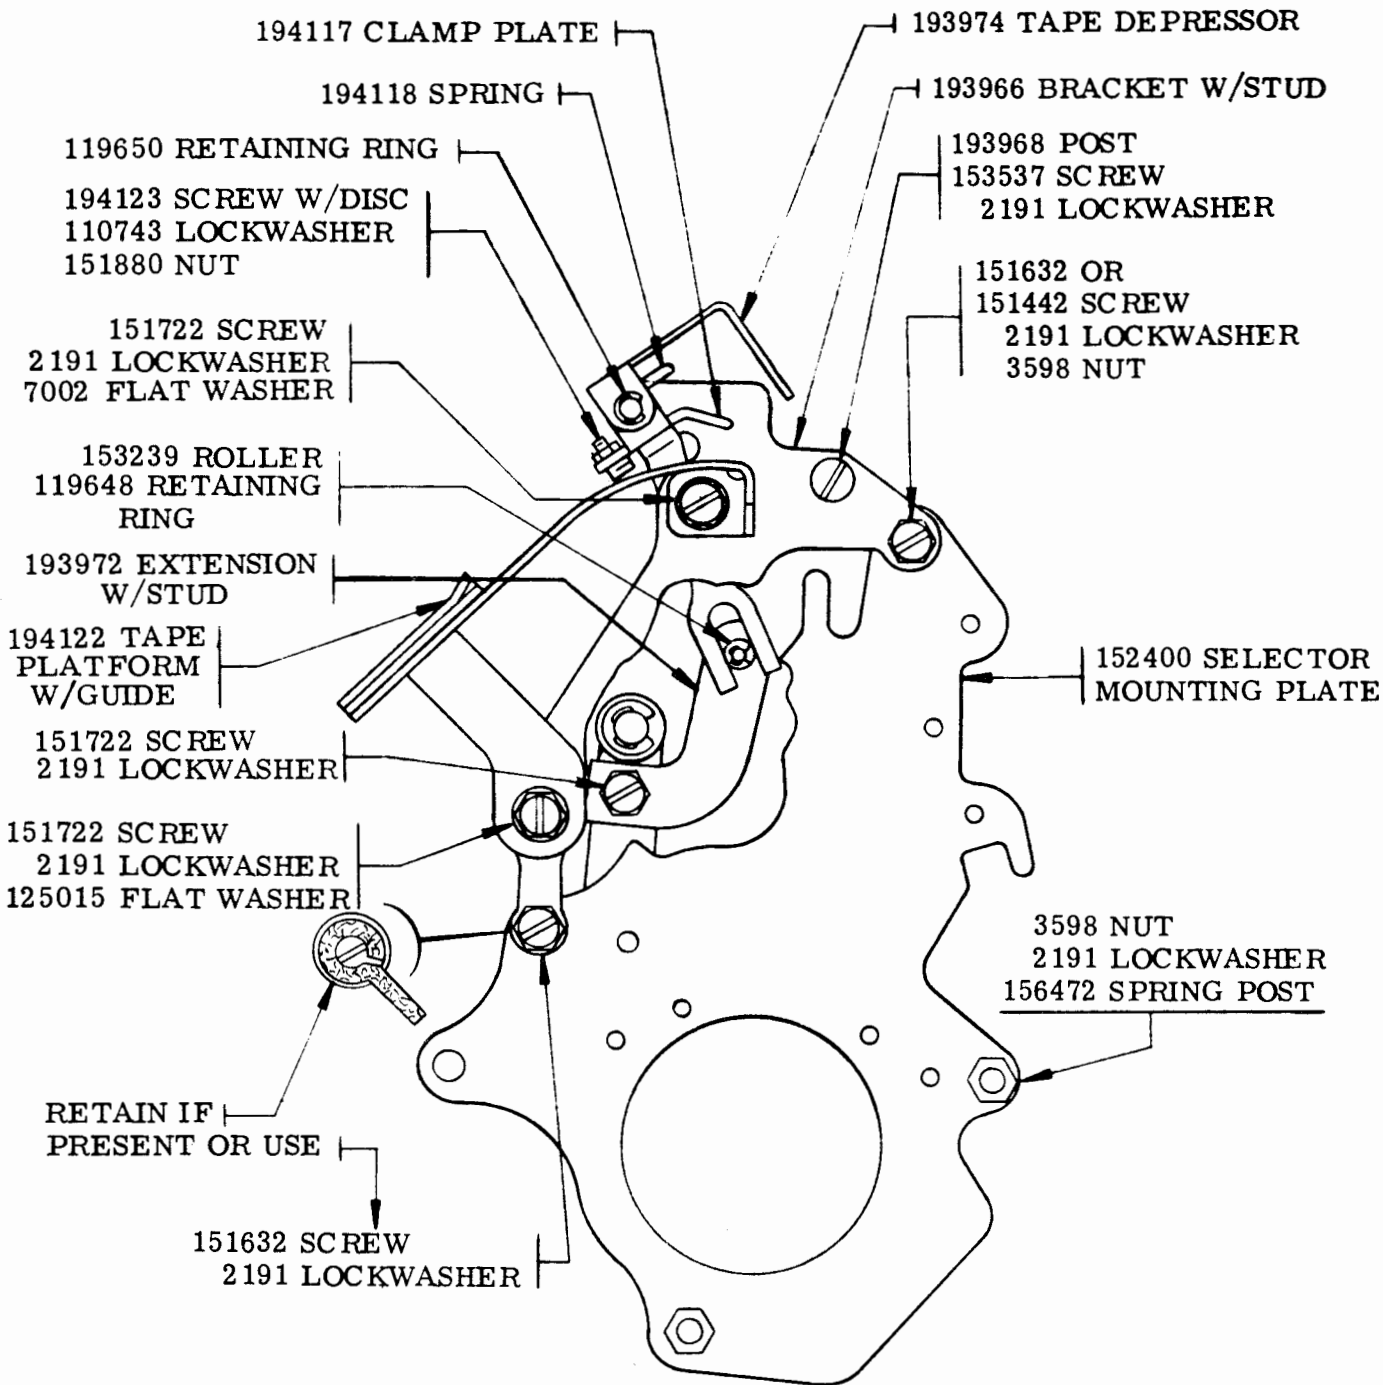

FIGURE 2
(1) Place the 152400 selector mounting plate over the 156403 main shaft bearing disc and threaded portion of the 156472 spring post.
(2) Secure the selector mounting plate into position by replacing the 2191 lockwasher and 3598 nut retained in Paragraph 2. b.
c. If the unit being modified is a Model 28 or 35 Typing Reperforator or a Model 28 or 35 Typing Perforator mount the 193972 extension to the rocker bail assembly by removing and saving the 151631 screw, 2191 lockwasher and 156399 nut used to mount the 156871 operating blade mounting bail. Refer to Figure 2.
(1) Assemble the 153239 roller to the 193972 extension with a 119648 retaining ring.
(2) Mount the 193972 extension to the rocker bail with the roller up to the right and front of the rocker bail using the 151631 screw, 2191 lockwasher and 156399 nut saved above in the same mounting holes.
(3) Assemble the 194123 screw w/disk to the 194117 clamp plate with a 110743 lockwasher and a 151880 nut so that the disk (head of the screw) faces down when the legs are up. Assemble the clamp plate, 193974 tape depressor and the 194118 torsion spring to the 193966 bracket w/stud using a 119650 retaining ring. The torsion spring mounts over the stud and between the legs of the clamp plate with its formed leg over the bracket. The clamp plate fits inside the legs of the tape depressor with its legs up and the tab towards the right. The tape depressor mounts on the stud so that its drive arm is on the opposite side of the bracket.
(4) Mount the 193968 post to the 193966 bracket w/stud using a 153537 screw, and 2191 lockwasher.
(5) Mount the 193973 tape platform to the 193966 bracket w/stud with two 151722 screws, two 2191 lockwashers, a 7002 flat washer (upper mounting hole), and a 125015 flat washer (lower mounting hole).